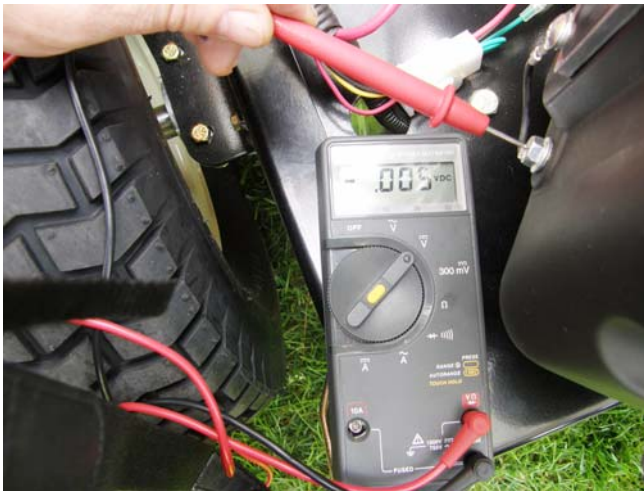

Figure 7.26
6. Regulator/rectifier check: See Figure 7.26.